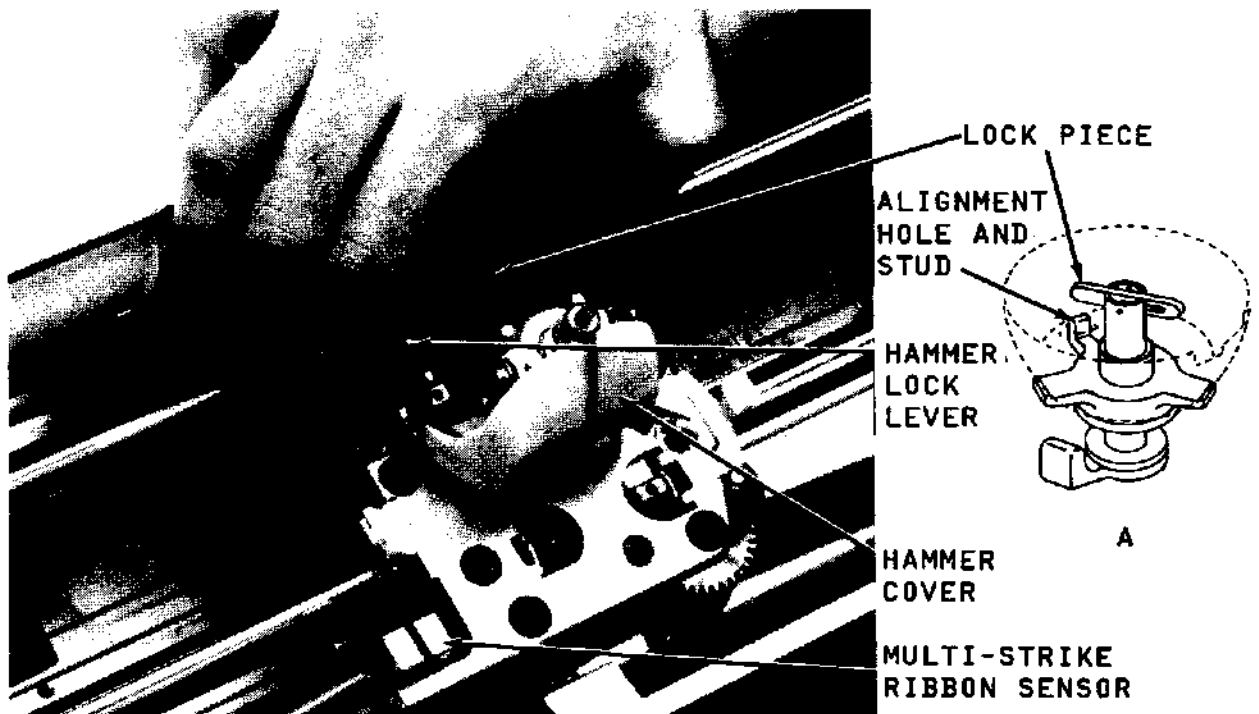

Figure 3-2 Print Thimble Removal
- e. Insert the ribbon in the ribbon sensor if a multi-strike ribbon is being used (see Figure 3-2).
- c. Push hammer lock lever toward the platen (Figure 3-2), at the same time tilt the hammer cover toward the front.